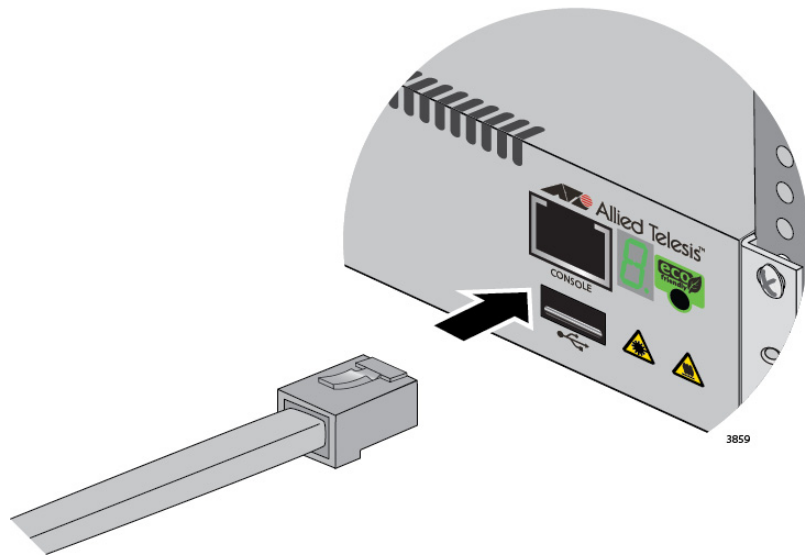

Figure 48. Connecting the Management Cable to the Console Port
1. Connect the RJ-45 connector on the management cable to the Console port on the front panel of the switch, as shown in Figure 48.